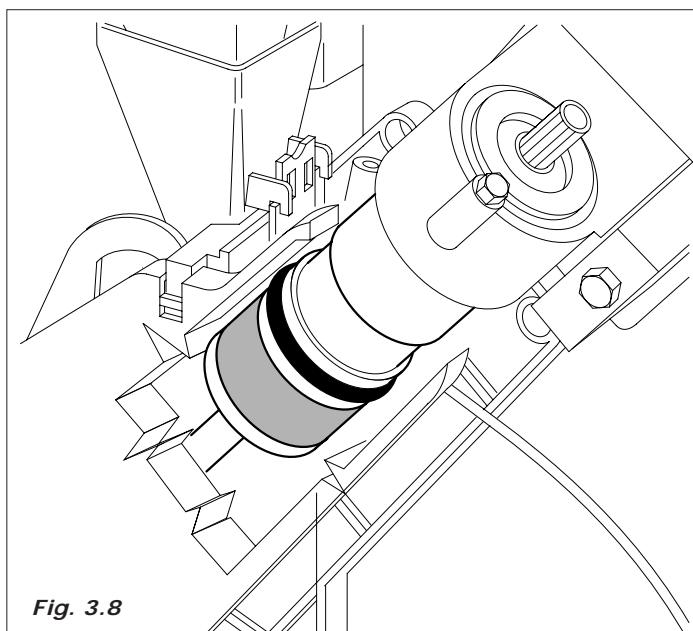

Fig. 3.8
- the rotation group geared motor brings it into the dispensing position and simultaneously compresses the ground coffee (Fig. 3.8).